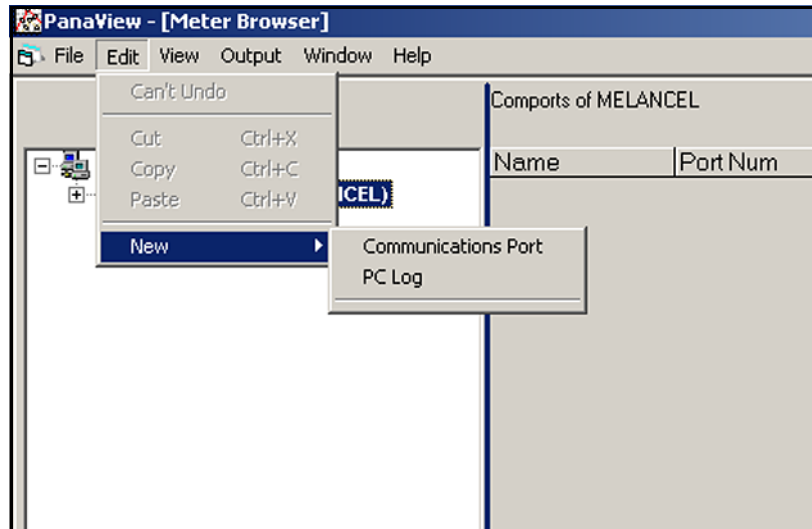

Figure 18: The Edit Menu
3. Click on the "New" menu option to select it, and a submenu opens with two choices (see *Figure 18* below).